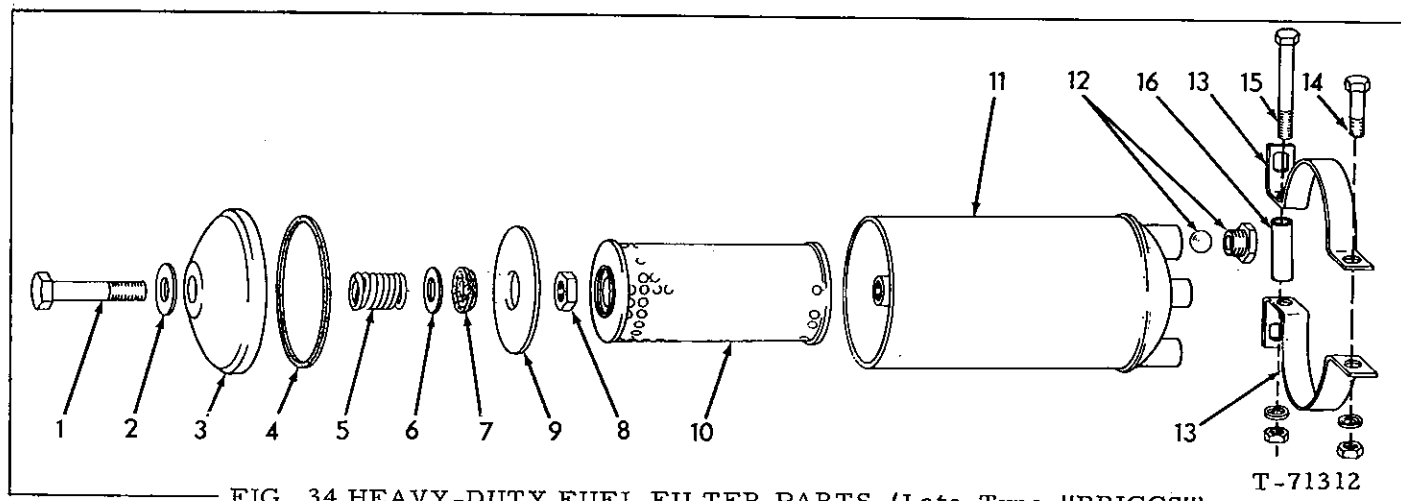

FIG. 34 HEAVY-DUTY FUEL FILTER PARTS (Late Type "BRIGGS")
3. REPLACEMENT OF HEAVY-DUTY FUEL FILTER ELEMENT (Fig. 34). LATE TYPE "BRIGGS"